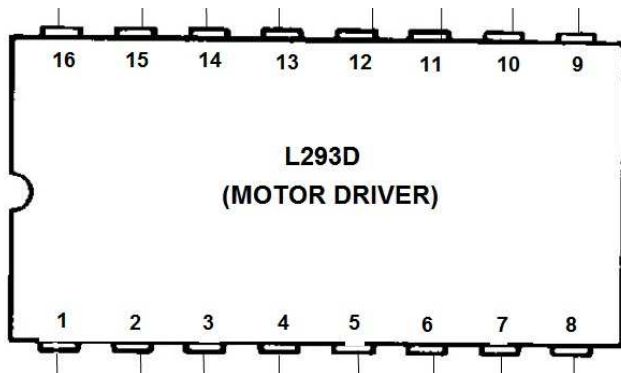

Fig. 1.6
- 1.6 Plug the L293D motor driver IC in Fig. 1.6 on the breadboard.